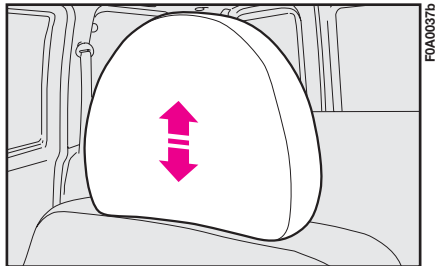

fig. 61a
- adjustable in height **fig. 61a**.